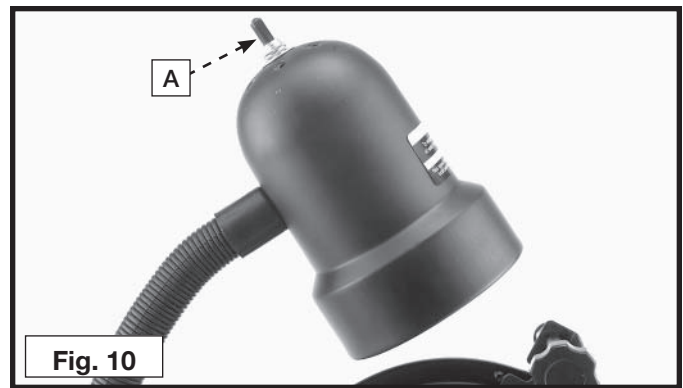

Fig. 10
The flexible lamp operates independently of the grinder. To turn the lamp on and off, rotate switch (A) Fig. 10.